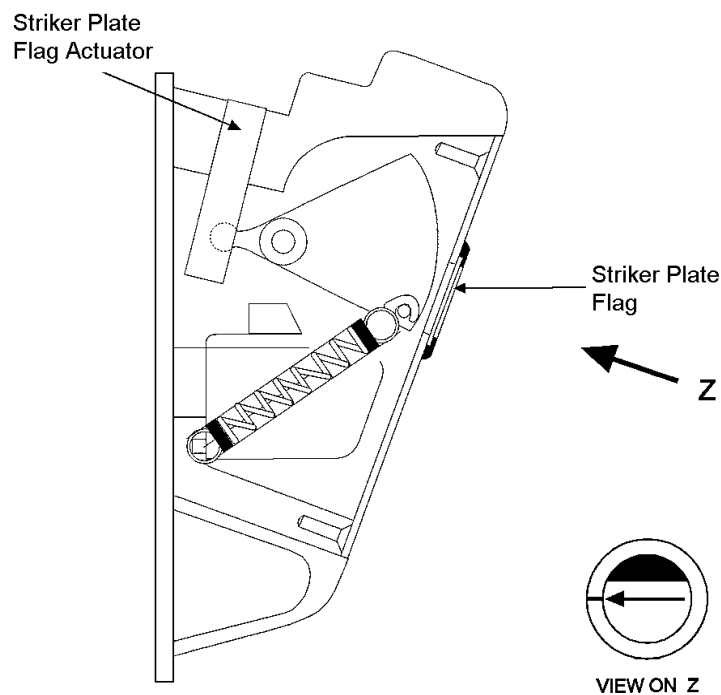

Figure 1: Striker Plate Flag Unit
26. Apply Molykote 33 medium grease (see Materials item 4) to each lock bolt in each of the vehicles being tested. Close each door in turn and check that the Lock Engagement Indicator changes from yellow to black.
27. At each door check that the arrow on the flag is aligned with the line on the aperture ring when locked. (A tolerance of ± 1 mm is permitted when viewing the arrow at 90°, see Figure 1).